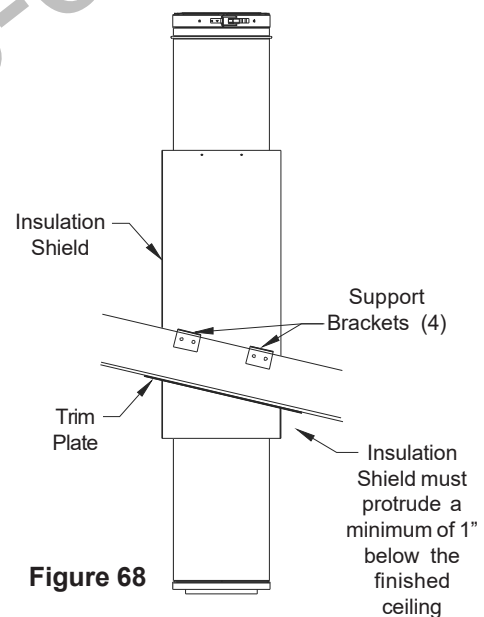

Figure 68
3. Install the Insulation Shield and secure to the framed opening from above with appropriate screws (not supplied). See Figure 68.
NOTE: The Insulation Shield must protrude below the finished ceiling a minimum of 1" into the room (see Figure 68).